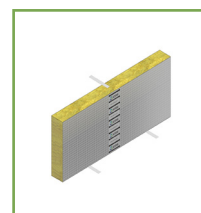

Fig 2. Folded fixing brackets are impaled into barrier.
- Incorporate the fixing brackets by impaling them alternately into the top and base of the barrier prior to installing. Three brackets are required per 1200mm unit length, i.e. position at nom. 400mm centres. (Fig 2.)